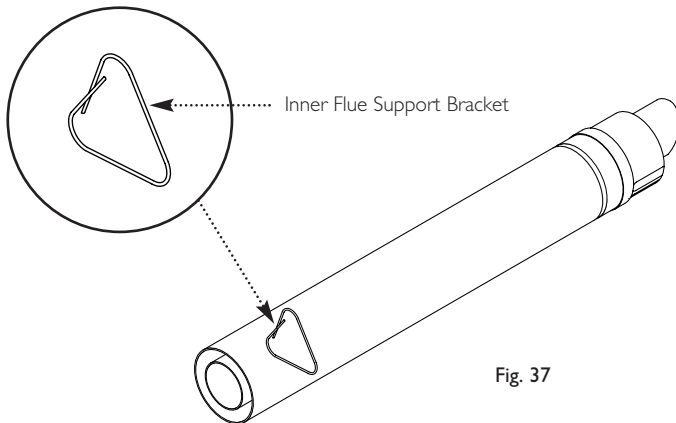

Fig. 37
7. Take the inner flue support bracket ( if not already fitted) and engage it over the flue duct. This will centralise the flue and air ducts, and ease assembly (Fig. 37).